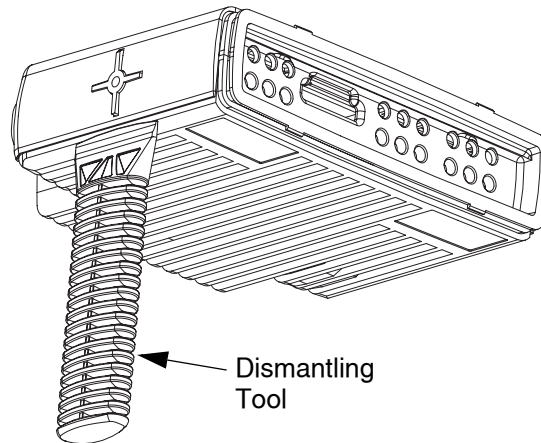

Figure 2-5: Top Cover Removal
1. Insert the dismantling tool in the middle of the radio assembly side groove as shown in Figure 2-5.